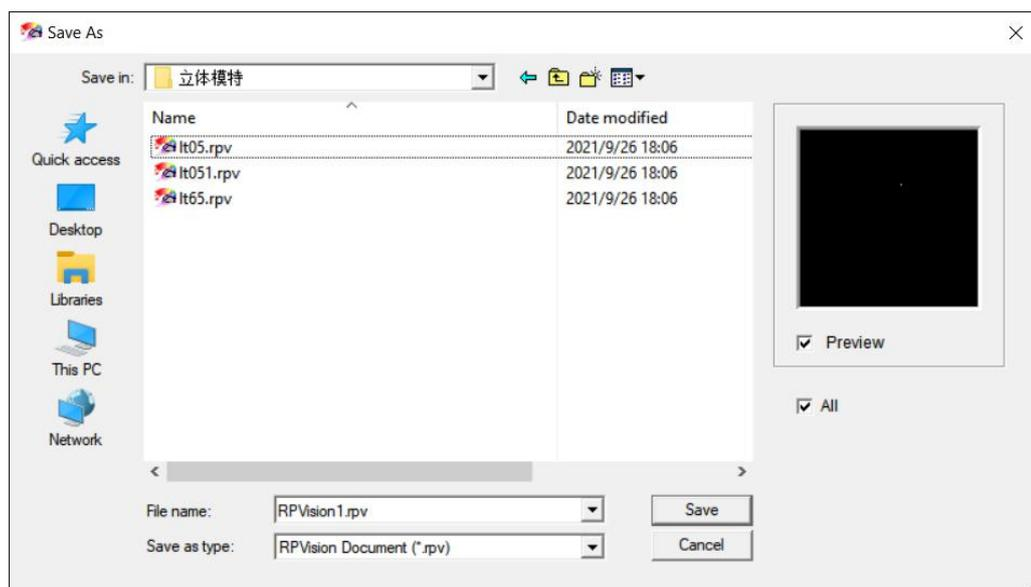

Figure 4-7
1. Click "Yes" to save the contents of the current document, and the Save Document dialog box will pop up (Figure 4-7), select the folder to be saved in the "Save in" directory, and name it in the "File name". The file to be saved is the default RPVision format file (*.rpv) of Fuyi Textile and Apparel Graphic Design System at the "Save Type". After setting, click "Save", the content of the document will be saved, and the current document will follow. closure.